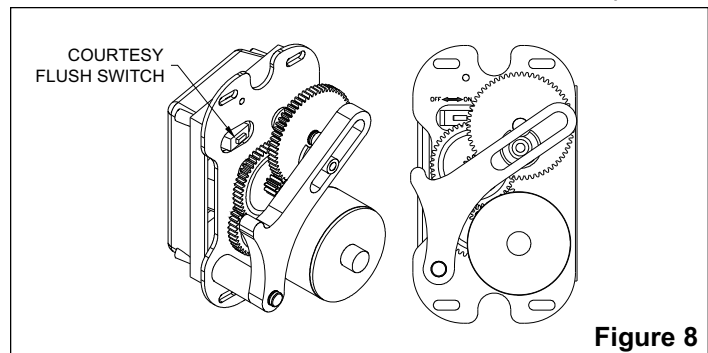

Figure 8
STEP 8 - Courtesy Flush Option (Figure 8)